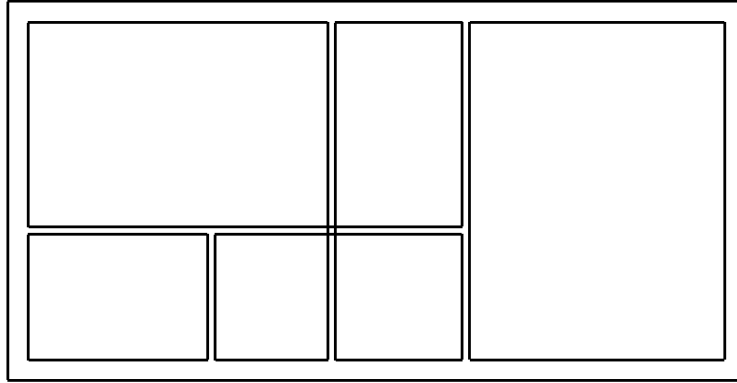

Figure 2-57 The complete building profile of the Apartment 1 project with the exterior and interior walls
7. This completes the interior wall layout for the *Apartment 1* project. The model will look similar to that shown in Figure 2-57.